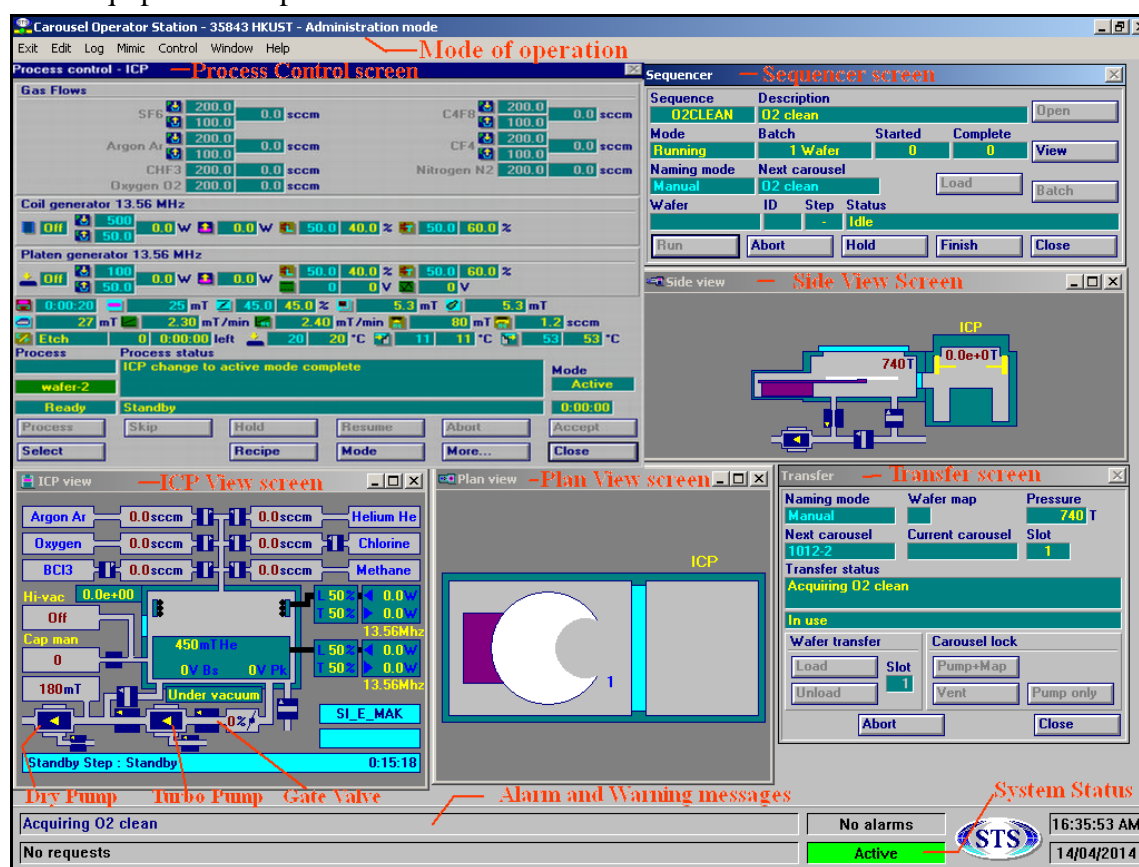

Fig.5 System operation screen
- Check the mode of operation shown in the operation screen (Fig.5). It should be logged in Administration or Production mode in order to make any changes in the process parameters.